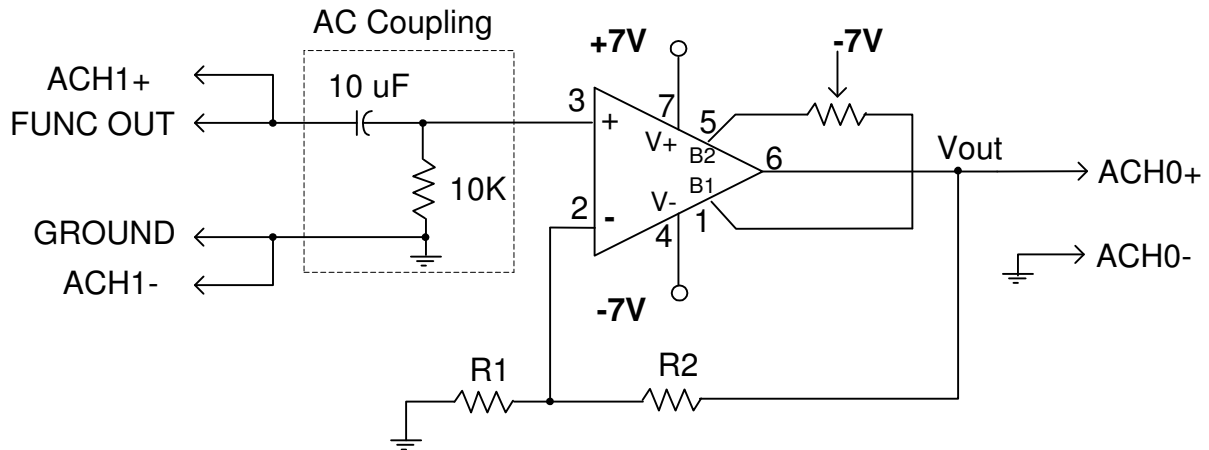

Fig. 7. Non inverting amplifier with AC coupled input and offset compensation resistor
1. Non inverting amplifier designed in the pre lab (as shown in Fig. 5) will be used to understand the finite GBW limitation of the Opamps. Since the gain of the non inverting amplifier is very large (around 100 or 40 dB), very small DC offsets in the amplifier will produce large DC output offset voltage. Hence we will use offset calibration scheme (used earlier in Lab 3, Fig. 6) to calibrate the Opamp offsets. So connect the circuit as shown in Fig. 7.
2. You would also notice that we have used AC coupling from the NI Elvis signal source to the opamp input in Fig. 7. This eliminates the DC offsets coming from the signal source and only the AC voltage swing generated by the signal generator (from Elvis) will be applied to the Opamp input terminal. The ac coupling circuit behaves like a high pass circuit with a corner frequency of around 1.6 Hz and will be transparent for higher frequency (> 1.6 Hz) operation. The potentiometer (20K) as shown in Fig. 7 between terminals 1 & 5 is for offset calibration. Make sure the wiper of the potentiometer is connected to $-7V$ supply. We will use this potentiometer to trim the offsets coming from the opamp.